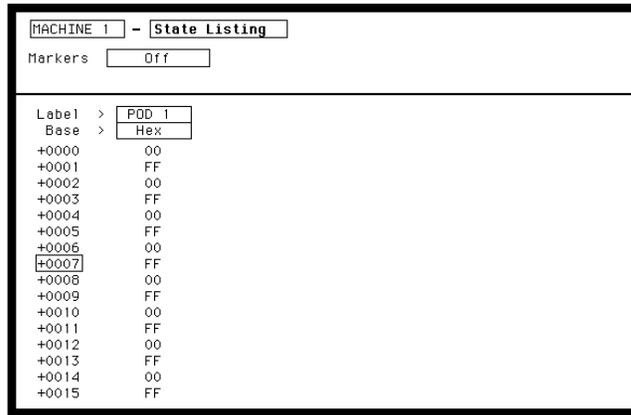

Figure 3-20. State Listing for Data Test 4
6. Press RUN. The **State Listing** is displayed and shows alternating Fs and 0s for the channels under test as in figure 3-20.